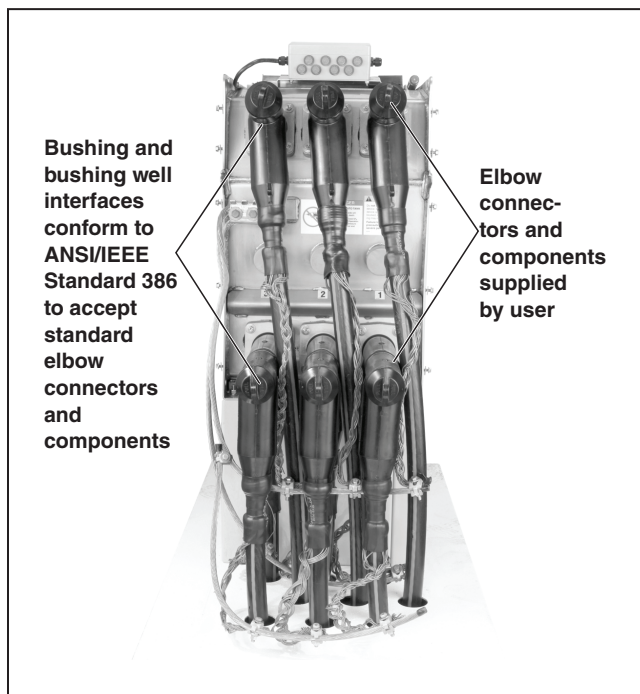

Figure 5. The elbow connectors.
- STEP 1.** Remove the shipping covers from the bushings and bushing wells. See Figure 5.
- STEP 1.** Assemble the elbow connectors to the cables following the elbow connector manufacturer’s instructions. See Figure 5.